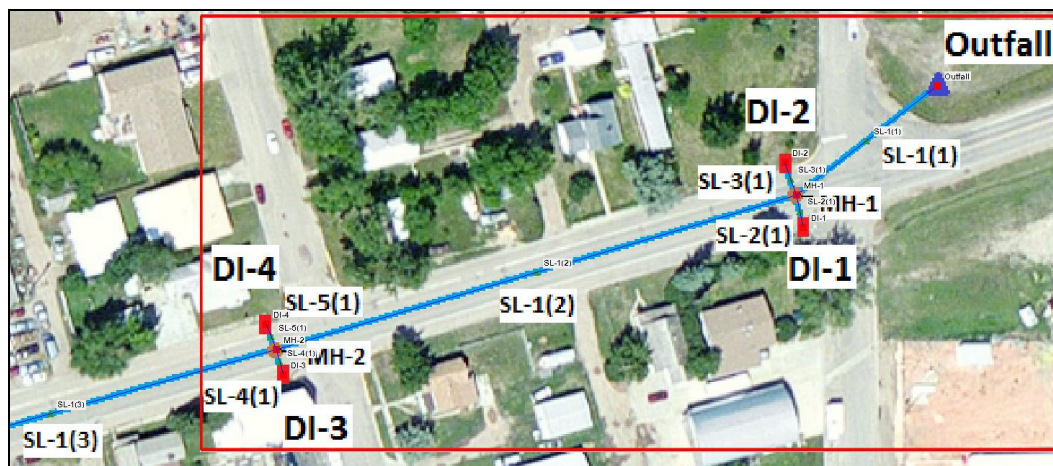

Figure 5 The section of the pipe network discussed in the tutorial
This tutorial will only work with the pipe network segment downstream from (but not including) the “SL-1(3)” link (the area within the red box in Figure 5). Inlet, access hole, pipe, and outfall names will be entered for this limited set of structures. This is to demonstrate how this information is entered. To save time, the fully-completed project will be then be imported before defining the project parameters for these structures and running HY-12.
3. **Zoom**  in to the area indicated in Figure 5.